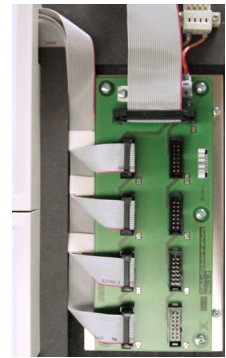

fig. 3.1-29
Step 2: Now connect the power supply for the touch pad. The positions of the connectors are shown in **fig. 3.1-29**. First of all, attach connector 1 (top left touch pad) with connector 2 (top right touch pad underneath the distribution board). Then attach connector 3 (top right pushbutton module above the input filter) with the control unit in the stainless steel frame part **B2**.